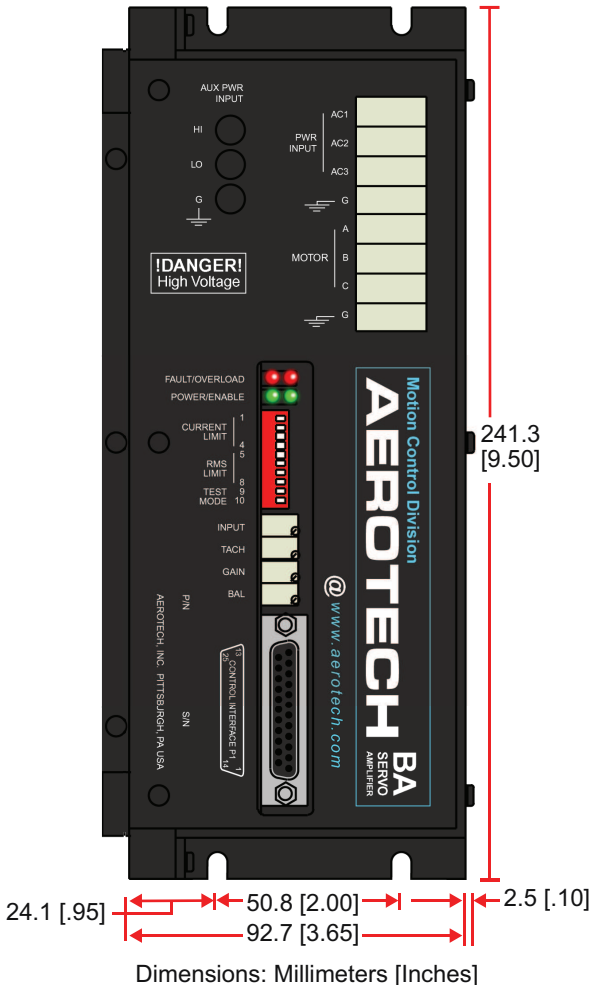
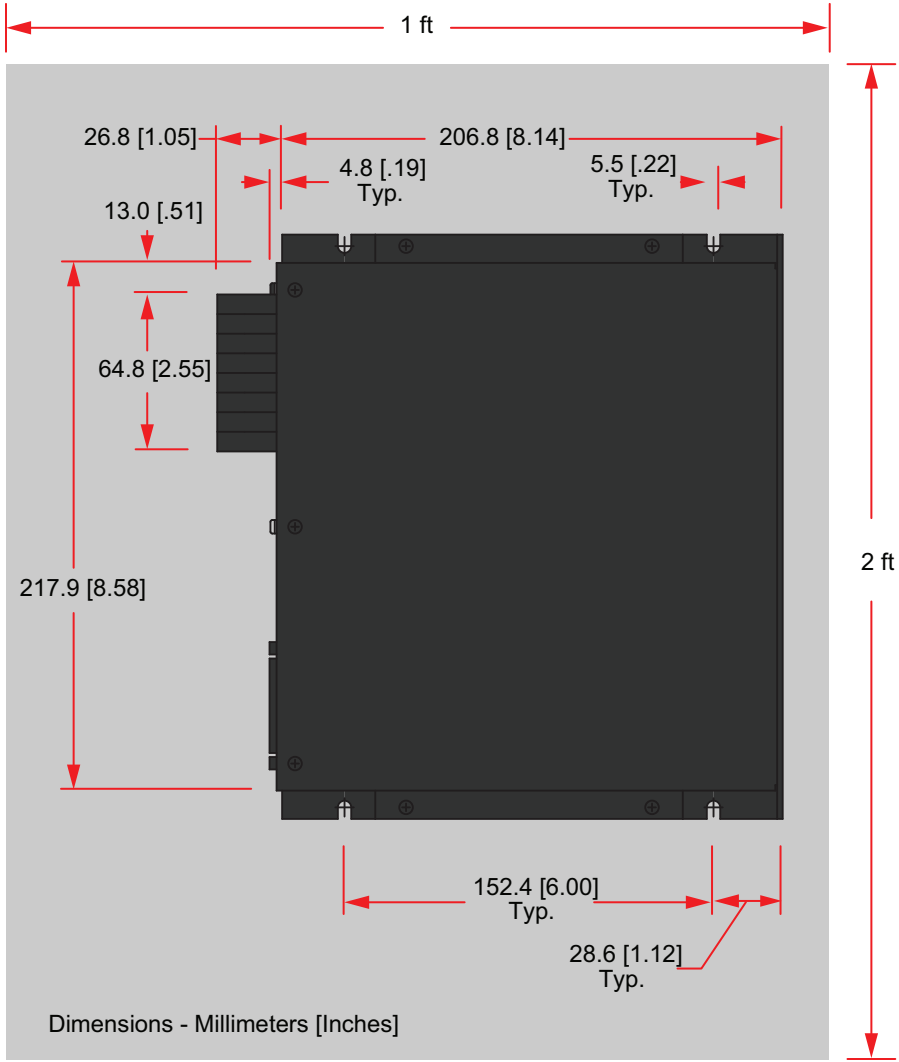
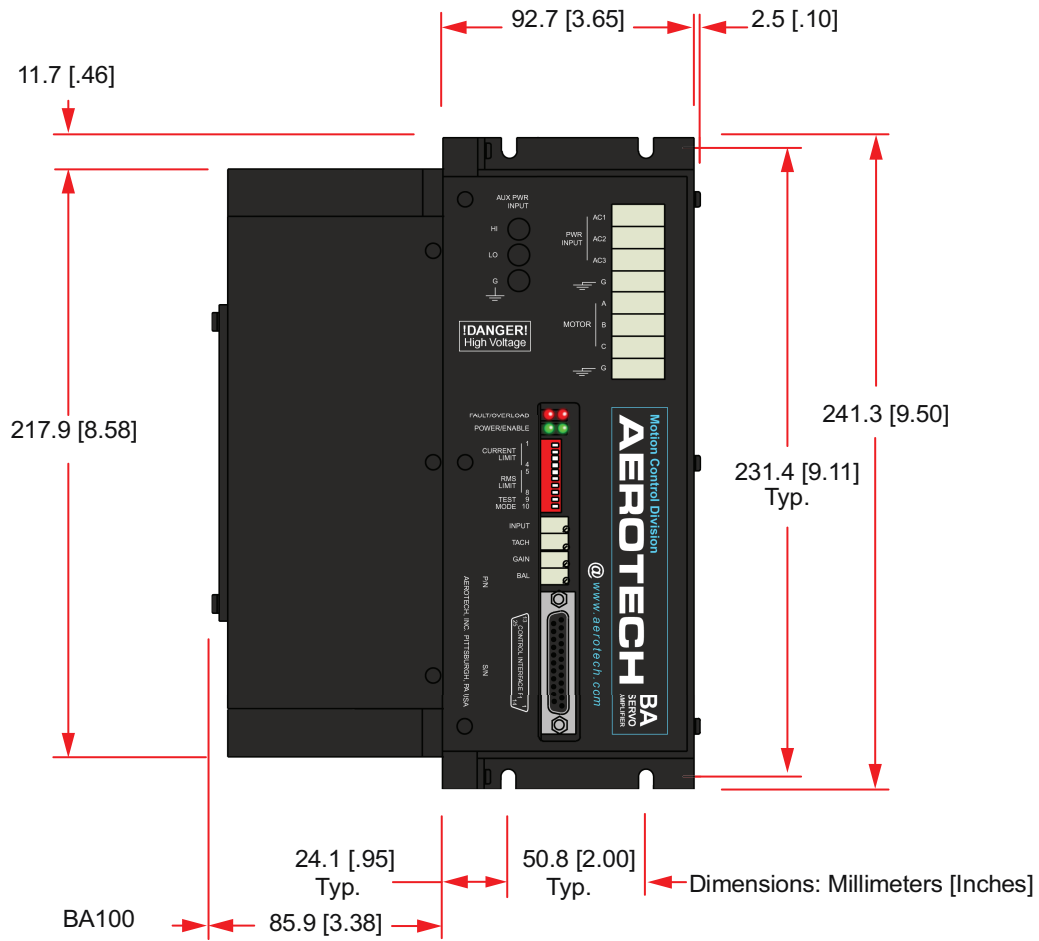

Figure 3-1: BA50 Dimensions (Front View)
Figure 3-2: BA50 Preferred Mounting (Side View)
Figure 3-3: BA75/100 Dimensions (Front View)
The outline dimensions for the BA amplifiers are shown in Figure 3-1 and Figure 3-2. BA50 Preferred Mounting (Side View).
1. Use the mounting procedure shown in Figure 3-1, Figure 3-2, and Figure 3-3. For the BA50, the wider part of the amp should be mounted to the heat sink, if the application requires maximum continuous output current to the motor. For a typical servo system (e.g., intermittent duty cycle), the BA50 can be mounted standing up as shown in Figure 3-1. The BA75 and BA100 are always mounted standing up, see Figure 3-3.
**NOTE :** It is advisable that the amplifier be mounted lying flat on a metal panel not less than two square feet for better heat dissipation. Refer to Figure 3-2.